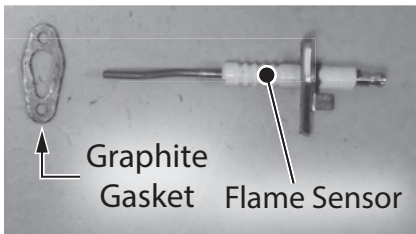

Figure 75 - Install flame sensor and graphite gasket
- 8 Locate the new flame sensor assembly and graphite gasket provided in the kit. Orient the graphite gasket as shown in Figure 75 and install to flame sensor assembly.